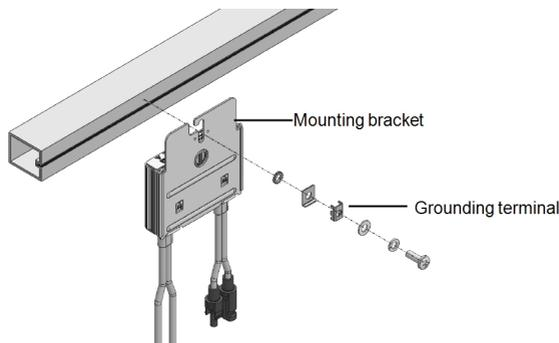

Figure 8: Power optimizer grounding terminal
- For mounting on un-grounded structures** (such as a wooden structure): If the star washer or the plate cannot be used, use the SolarEdge grounding lug (purchased separately) with an equipment-grounding conductor according to the supplied instructions. The grounding terminal accepts a wire size of 6-14 AWG, and must be sized for equipment grounding per NEC 250.122 requirements. Tighten the screws connecting the power optimizer to the frame and the grounding terminal screw. Apply torque of 9.5 N*m / 7 lb*ft. See *Figure 8*.